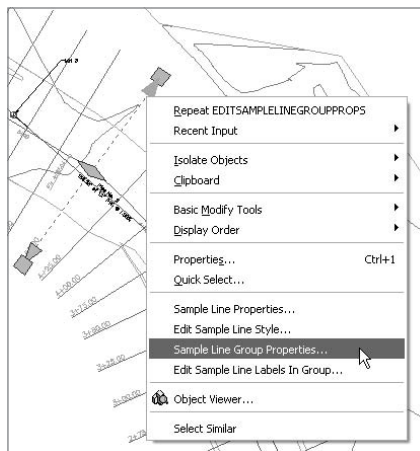

Figure A.88
3. Select any sample line, right-click, and choose Sample Line Group Properties, as shown in Figure A.88. The Sample Line Group Properties dialog will appear.